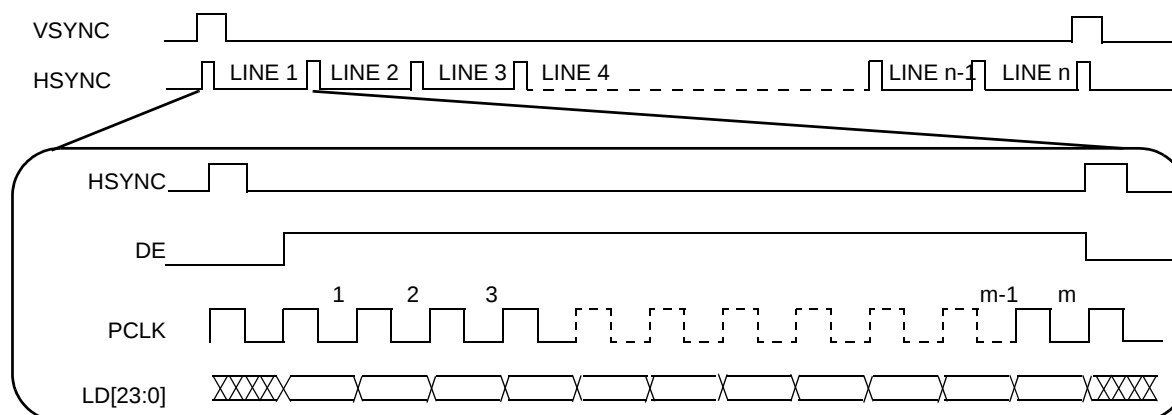

Figure 24. TFT LCD interface timing overview¹
1. In Figure 24, the “LD[23:0]” signal is “line data,” an aggregation of the DCU’s RGB signals—R[0:7], G[0:7] and B[0:7].